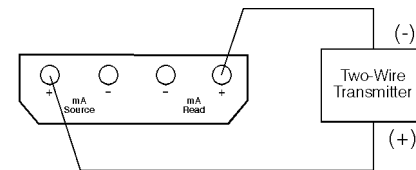

FIGURE 4 - SIMULTANEOUS POWER/DISPLAY
4. The CL260 can simultaneously power a device with 24 volts and display the current flowing through the loop. This is particularly useful when calibrating a two-wire transmitter. A typical application is shown in Figure 4.